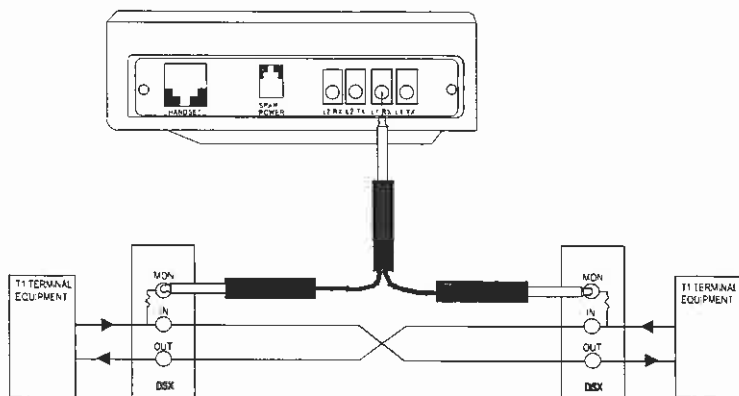
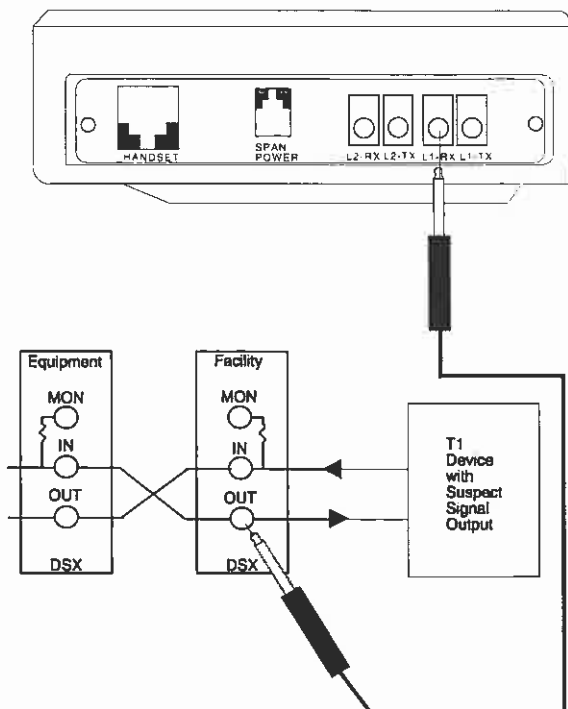

Figure 97 Monitoring an In-Service DS1 Circuit
Figure 99 Measuring Signal Level
1. From the Dual T1 Main Menu > TEST CONFIGURATION. For a DS1 circuit, configure these settings and refer to Figure 97, Monitoring an In-Service DS1 Circuit
If there is a signal on the OUT jack, use the setup shown in Figure 97, Monitoring an In-Service DS1 Circuit, to measure the level. Otherwise, use the setup shown in the Figure 99, Measuring Signal Level.
3. Connect the test set to the circuit as shown in Figure 99, Measuring Signal Level.